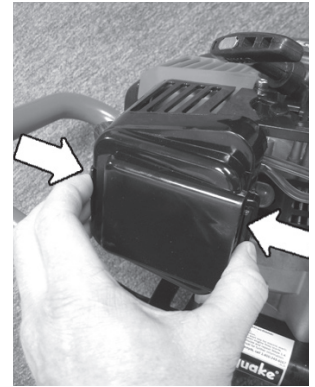

Figure 2
2. To remove air filter cover, squeeze the latch tabs on both sides of the cover. **(Figure 2)**